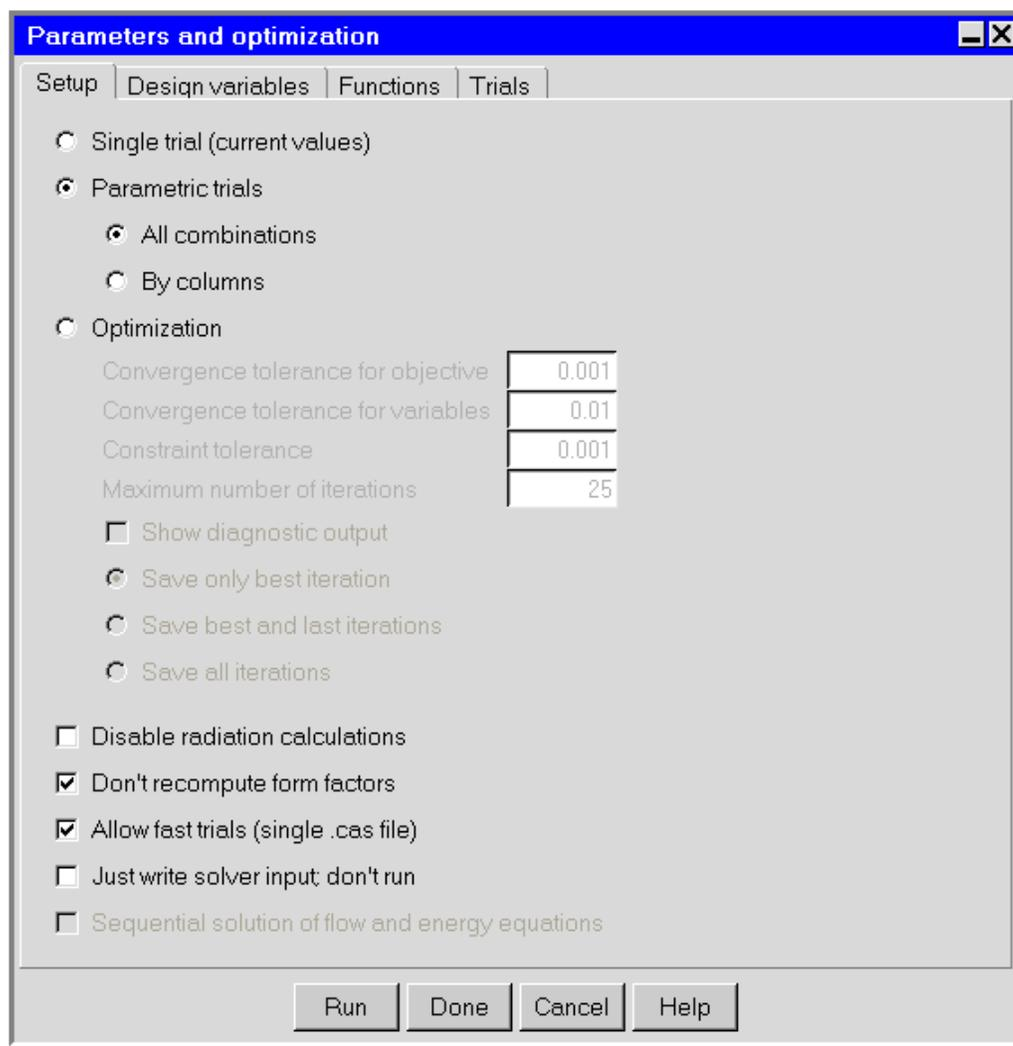

Figure 24.5.1: The Parameters and optimization Panel (Setup Tab)
You can define additional new parameters, also called design variables, or edit existing parameters using the Parameters and optimization panel (Figures 24.5.1, 24.5.2). To open this panel, click the  button in the Model and solve toolbar.
There are two ways of listing possible combinations from the list of parameters specified in the Design variables tab of the Parameters and optimization panel: listing all combinations and listing "by column". To choose one of the two options, select Parametric trials in the Setup tab of the Parameters and optimization panel (Figure 24.5.1).
1. Select **Single trial (current values)** in the **Setup** tab of the **Parameters and optimization** panel (Figure 24.5.1).